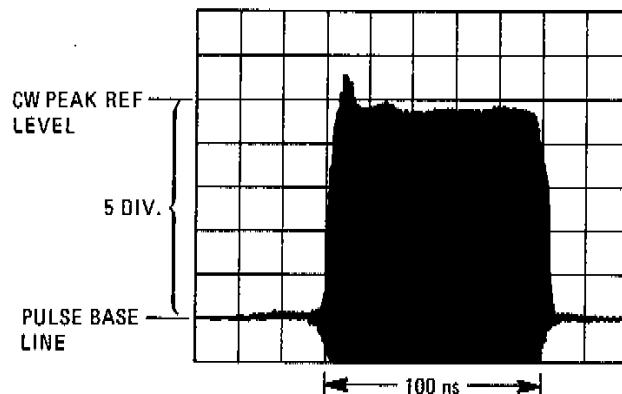

Figure 4-8. Pulse Level Accuracy Measurement
8. Adjust the oscilloscope vertical sensitivity for a display 5 divisions above the pulse base line. The peak of the CW signal is now the CW peak reference level. See Figure 4-8.